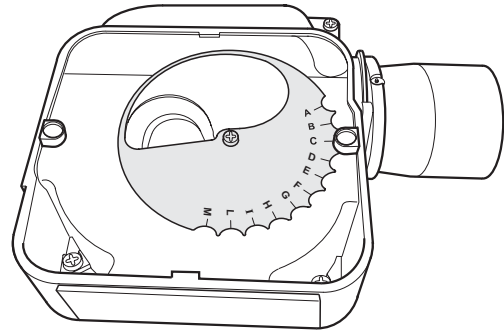

Fig. 24 - 15/21 air adjuster disc at position 'C'
To adjust the 15/21 air adjuster disc when downrating - See Fig. 24
5. The secondary air shutter disc is factory set in position 'C' - i.e. with the cut-out marked C located against the die-cast boss on the fan housing - suitable for outputs of 18.3 and 21 kW only. See Fig 24.